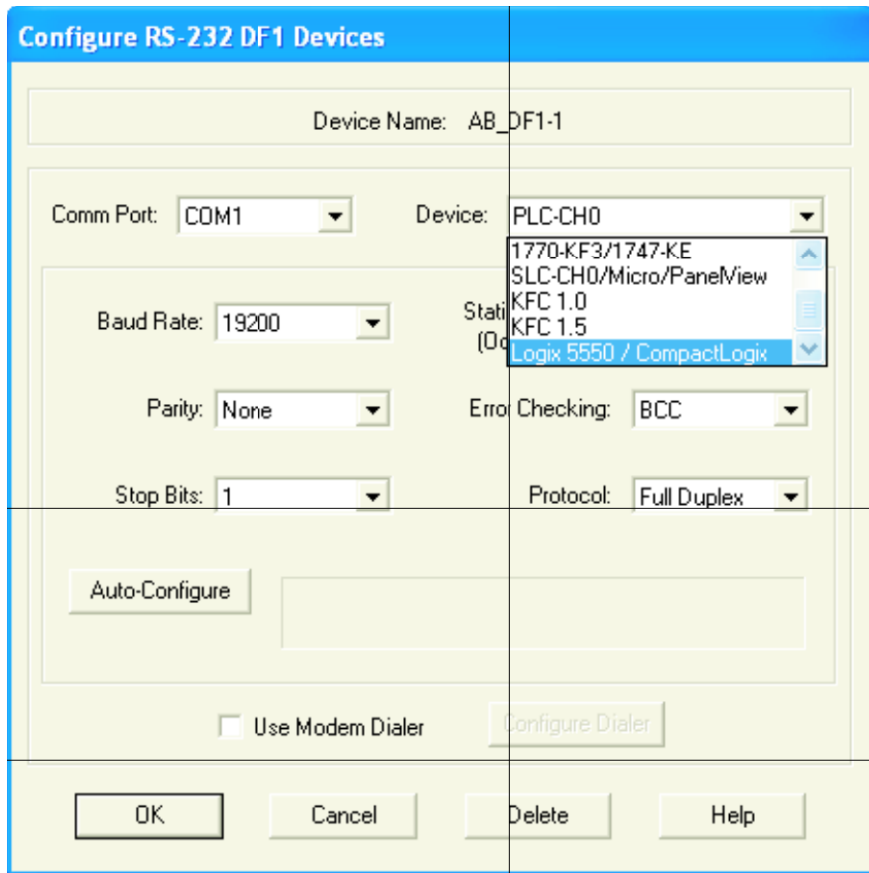

Figure 11-4: Configure RS232 DFI Devices
7. Click on 'Add New' and enter a suitable Driver Name in the pop-up window that then appears. Click on 'OK'. The 'Configure RS-232 DF1 devices' window opens (Figure 11-4).